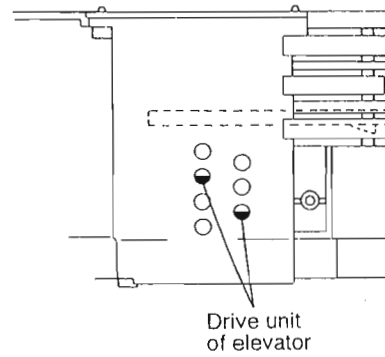
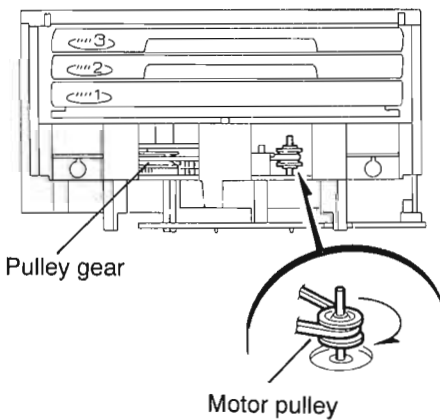

Fig.3-41
Fig.3-42
[Caution] In case the driver unit elevator is not at the above position, set the elevator to the position as shown in Fig.3-41 by manually turning the pulley gear as shown in Fig.3-42.
13. Manually turn the motor pulley in the clockwise direction until the lifter unit stopper is lowered from the section "E" of CD tray assembly (See Fig.3-42).